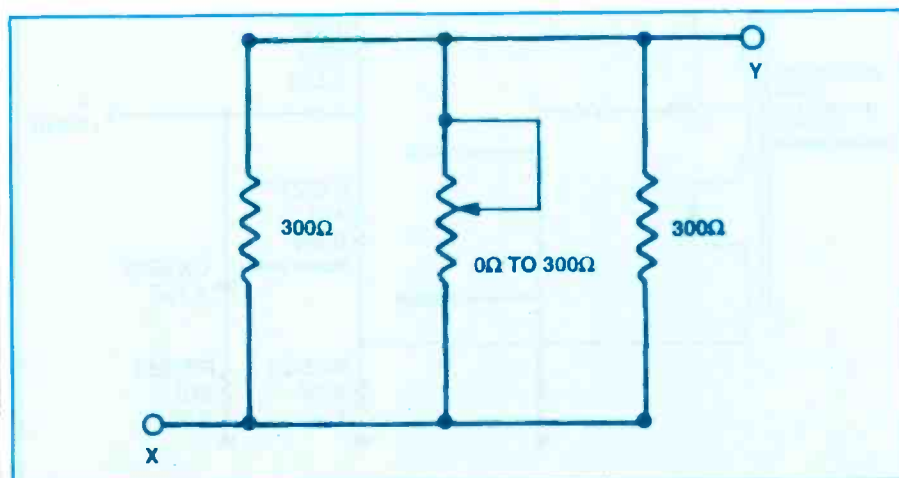

Figure 1. What is the range of values that will be measured between X and Y, as the variable resistor is varied between 0Ω and 300Ω .
6. The variable resistor in Figure 1 has a range of 0Ω to 300Ω . What is the range of resistance values between X and Y?